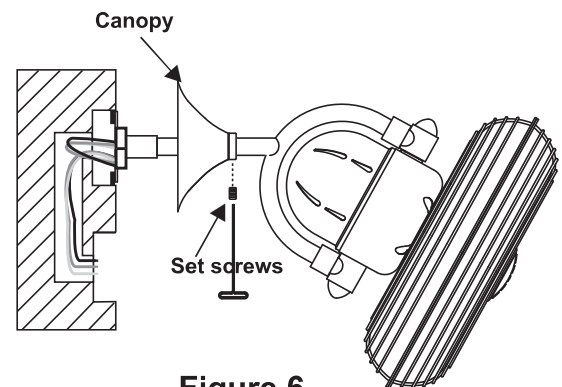

Figure 6
6. Push canopy down goose neck toward wall until the canopy lays flat against the wall surface, covering the hanger bracket. Tighten set screws in canopy. (Fig. 6)